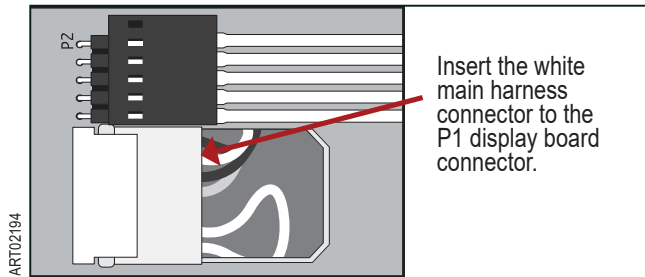
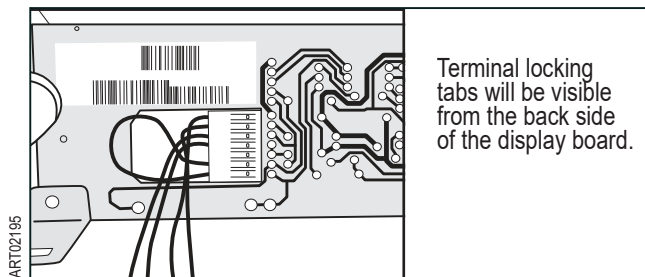

Fig. 12 Insert the white harness connector to the P1 display board connector
Fig. 13 Locking tabs visible from back of display board
- Insert the white main wire harness connector to the P1 connector of display board. Refer to Fig. 12 and Fig 13.